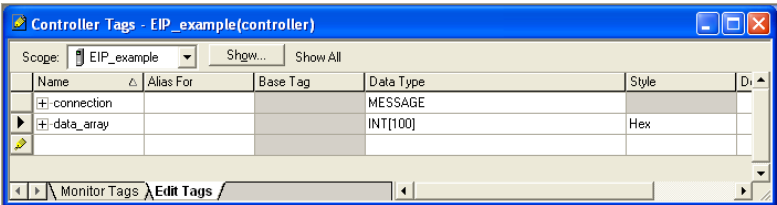

Figure 83: Create New Tags
- b) The “Controller Tags” window appears. Refer to Figure 83.